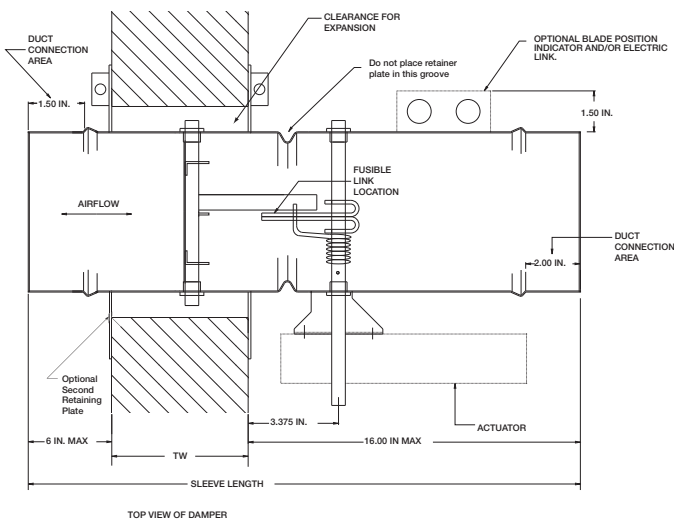

Figure 3: FSDR/SEFSDR/SSFSDR
Insert the damper assembly into the prepared opening, to appropriate depth (see **Figure 3 & 4**).
- Position the retaining plate between the blade axle and the actuator shaft as shown in **Figure 3 & 4**. Do not place the retaining plate in the groove. **IMPORTANT:** The clamping mechanism should face away from the wall/floor.